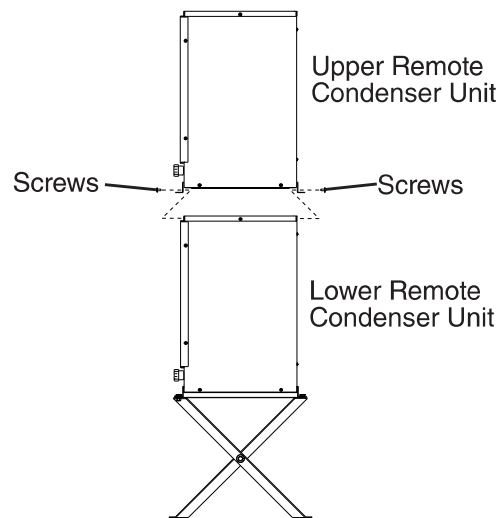

Fig. 17
- 2) Place the upper remote condenser unit on top of the lower. See Fig. 17.